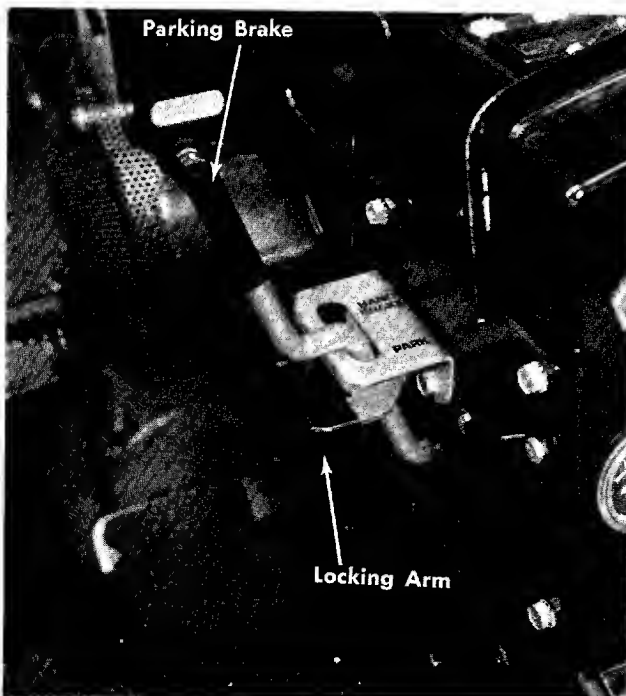

FIGURE 9. CONTROLS
c. Parking Brake. To set the parking brake, pull the parking brake lever back and hold it in the locked position while moving the locking arm to the left. See figure 9.